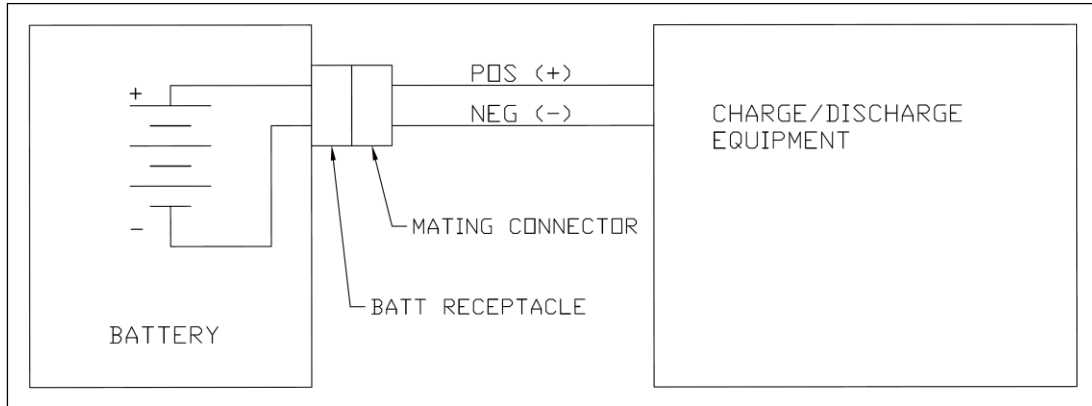

Figure 101. Test Set Up for RG® Series Emergency Batteries with Receptacles
- A. Refer to Figure 101 or 102 for a schematic of the test set up.